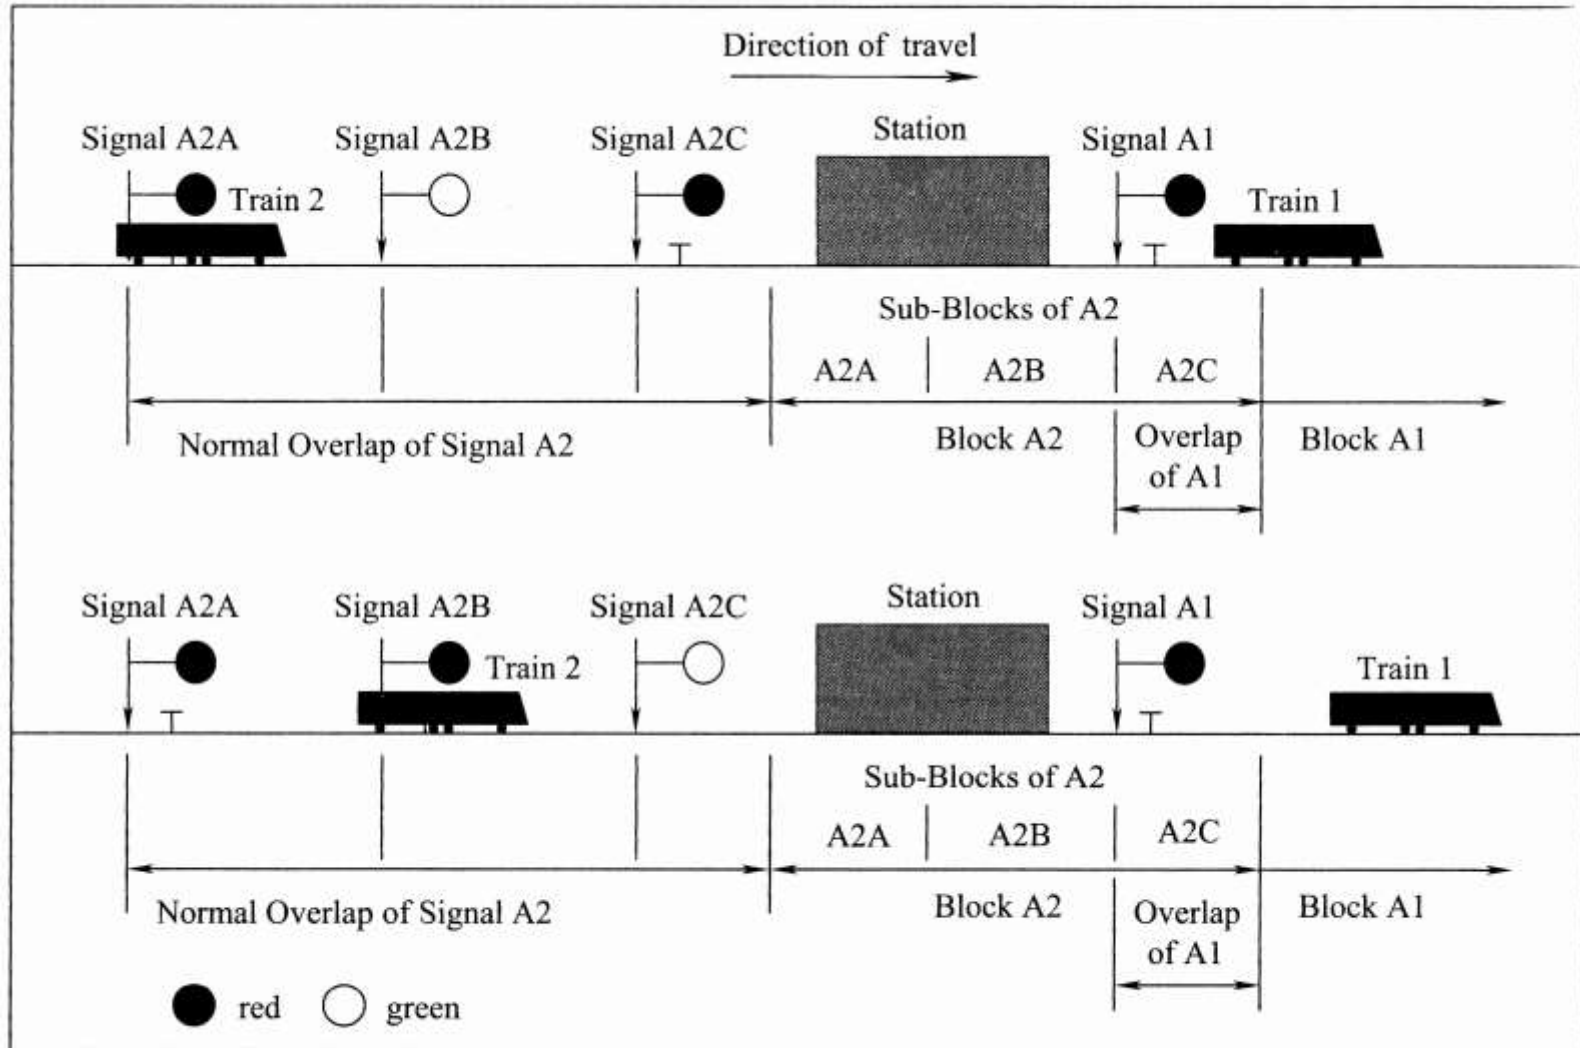

Fig. 7.4 Multi-home signaling—run in
- ◆ At this next stage in the sequence, we can see (Fig.7.4) that Train 1 has now cleared two sub-blocks, A2A and A2B, so two of the multi-home signals are now clear.